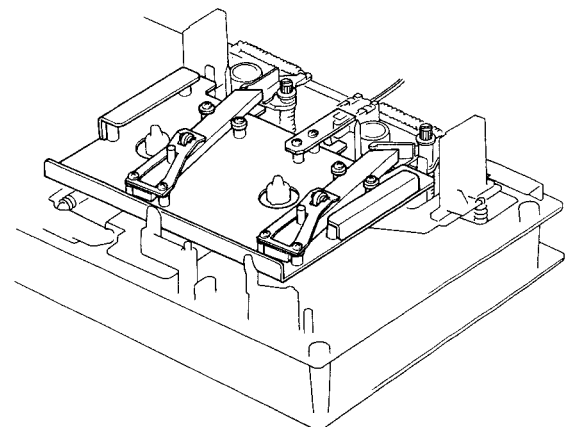

Fig. 4.8
Remove Head Mount Base Ass'y referring to item 2.22. Refer to Figs. 4.8 and 4.9.
(1) Supply Tape Guide Height Adjustment
(2) Take-up Tape Guide Height Adjustment